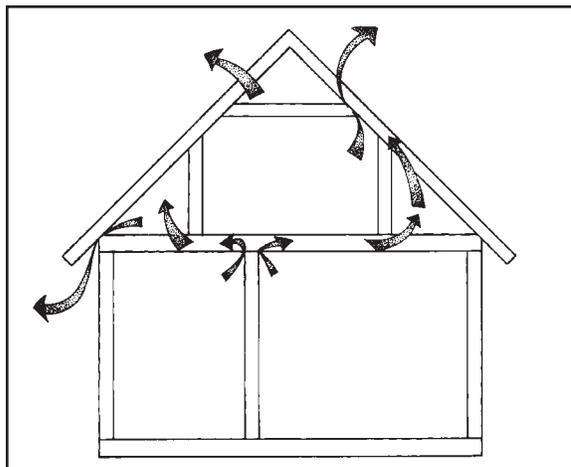

Figure 8
**Cape Cod or Story-and-a-half house.** This house features a finished “expansion attic” which is a problem area when adding insulation. As Figure 8 shows, unheated attic spaces are often created when these attics are finished. These spaces are the source of air leaks—mainly through the open space between the first floor ceiling and the second floor flooring—and result in energy loss and often lead to severe moisture problems. Instructions for blocking these air leaks are included in the “Attic Bypasses” Home Energy Guide.